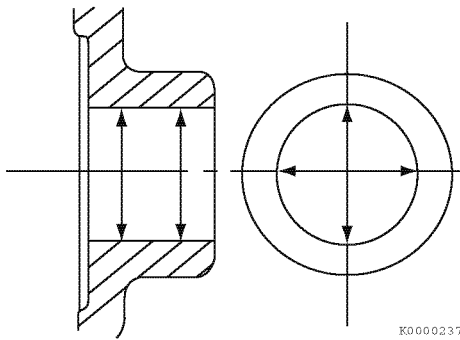

Figure 6-51
6. Measure the diameter of the wrist pin bore on both sides of the piston (**Figure 6-51**). See *Piston on page 6-9* for specifications. Record the measurements.